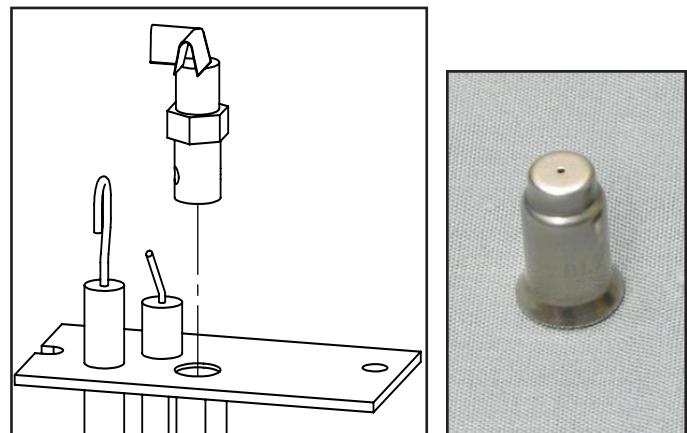

Figure 9. Pilot Conversion & Orifice
5. Convert the existing pilot orifice with the one provided in this kit (see Figure 9) using a **7/16"** wrench. Fully unscrew and remove the pilot head and replace the orifice insert, bell end down. Re-install and tighten the pilot, if the head does not reach proper orientation in the snug position then contact your Enviro dealer.